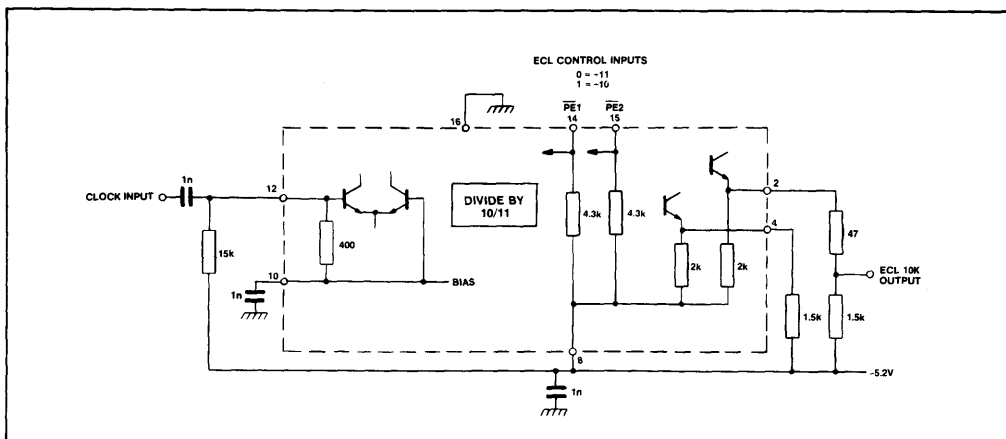

Fig.7 Typical application showing interfacing
- The outputs are compatible with ECL II but can be interfaced to ECL 10K as shown in Fig.7.